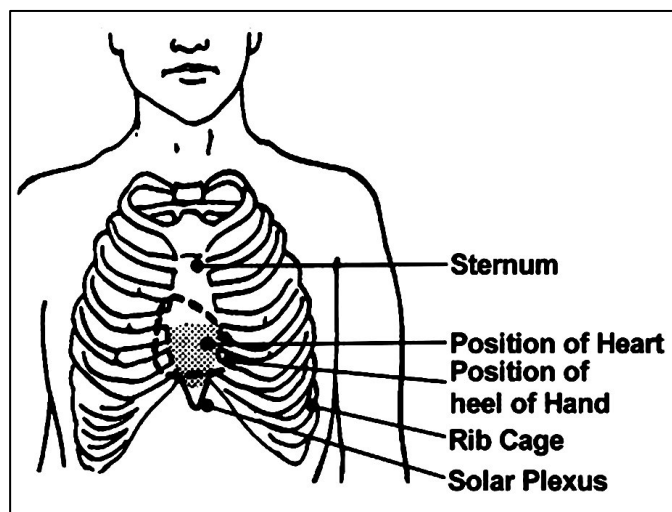
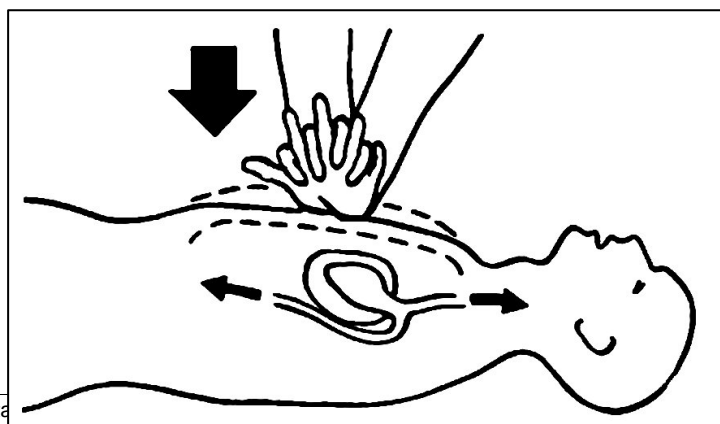

Fig. 4: Hand Position over Heart
Fig. 5: Attitude of Hands
12. If a pulse is not detected: place the heel of one hand two finger widths up from Solar Plexus at the junction of the rib margins at the bottom of the breast bone (Fig. 4), then place the heel of the other on top (Fig. 5).